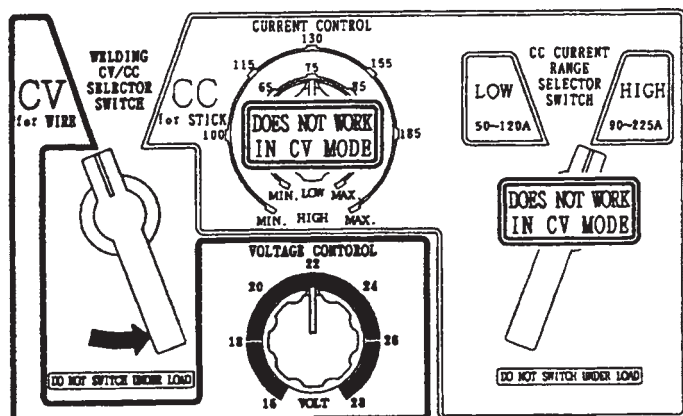

Figure 21. Welding Voltage Adjustment
1. Turn the CV/CC **Selector Switch** (Figure 21) to the **CV** position, and adjust voltage using the **Voltage Control** knob.